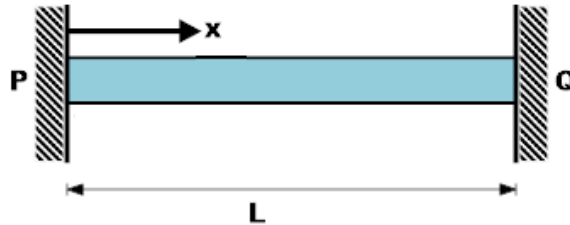

Figure Q1
1. A 20 mm × 30 mm ( $b \times d$ ) rectangular cross-section aluminium bar, 100 mm long, is restrained between two walls at P and Q, as shown in Figure Q1. Initially the temperature of the bar is  $T_0 = 20^\circ\text{C}$  and there is no initial restraining force. Assume  $\alpha = 22 \times 10^{-6} \text{ }^\circ\text{C}^{-1}$  and  $E = 70 \text{ GPa}$  for aluminium.